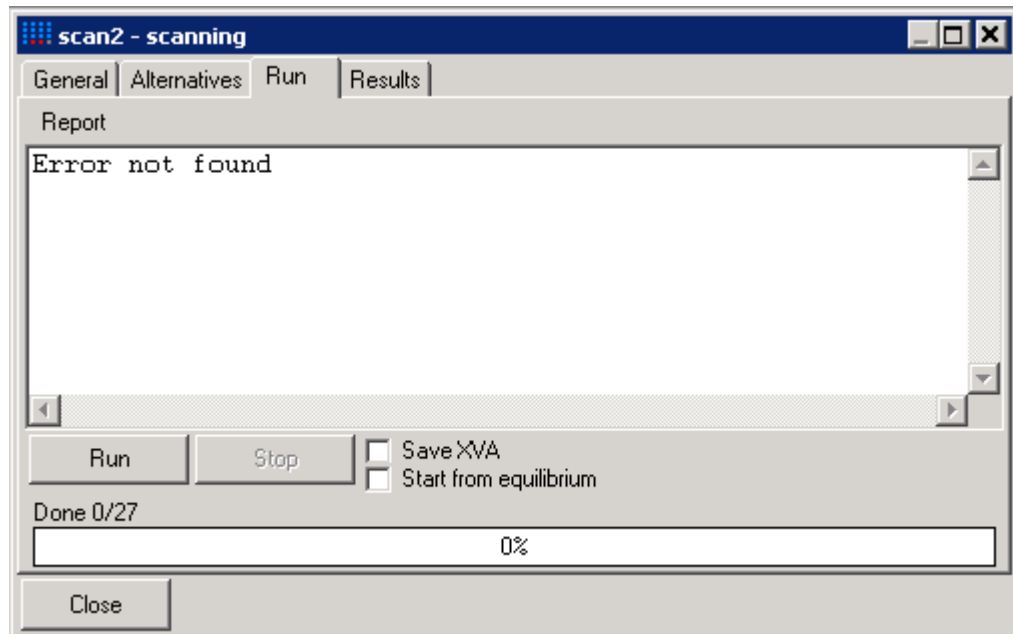

Figure 2.12.
2. If you did everything in order then the **Report** contains the «**Error not found**», see Fig. 2.12.